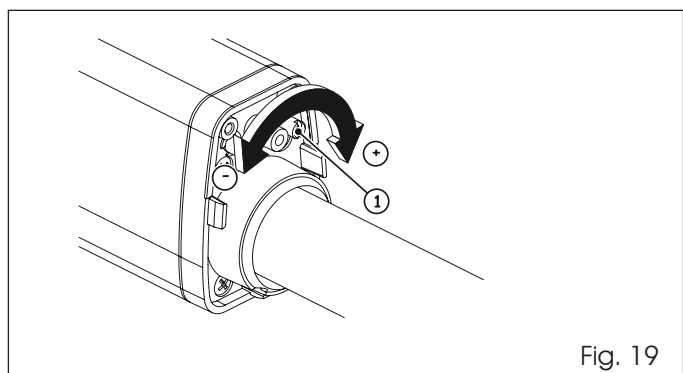

Fig. 19
2. To adjust the closing limit switch FCC, turn the adjusting screw clockwise (Fig.19 Ref. 1) to increase rod stroke and counter-clockwise to reduce it.